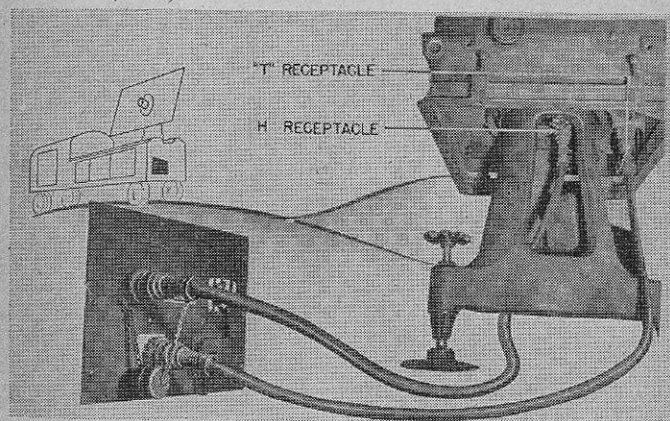

FIGURE 32.—Cabling with director M4 or M7.
a. With director M4 or M7.—When using the SCR-545-A with director M4 or M7, two data cables are used as indicated in figure 32. Both of these are 20-conductor cables with 19-terminal plugs and are furnished and carried with the director. One connects the "A" (black) receptacle on the DATA JUNCTION BOX of the SCR-545-A with the "H" receptacle on the bottom of the director. The other connects the "B" (white) receptacle on the DATA JUNCTION BOX with the "T" receptacle on the bottom of the director. With these two cables in place the director must be operated with the